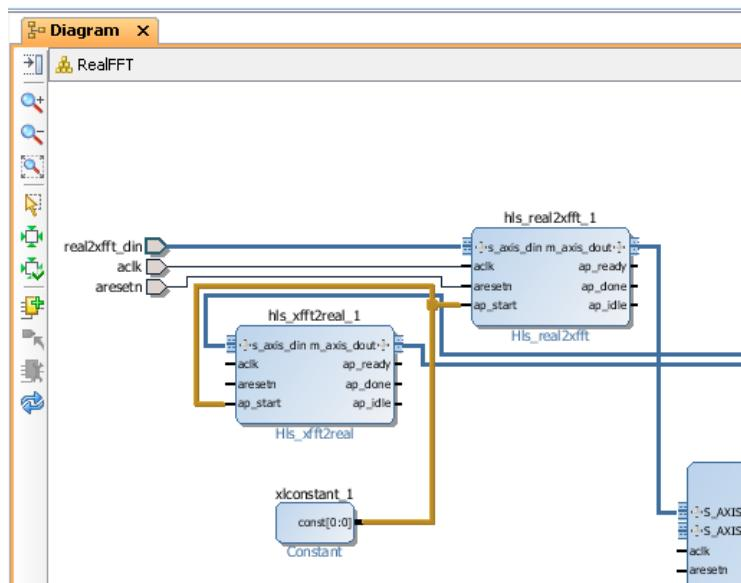

Figure 207 Connect AP_START to Constant 1
- f. Connect ap_start of both HLS blocks to the Constant block (Figure 207)